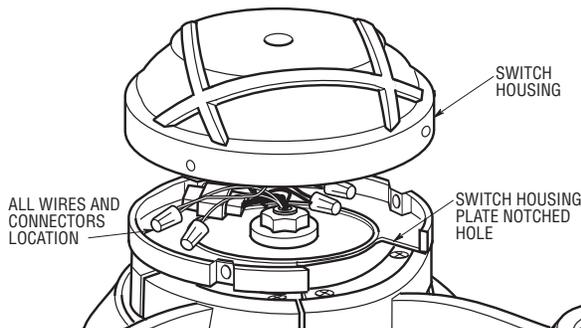

Figure 4
- 10. Tuck all wires into the switch housing, opposite of the switch housing notched hole (Figure 4).